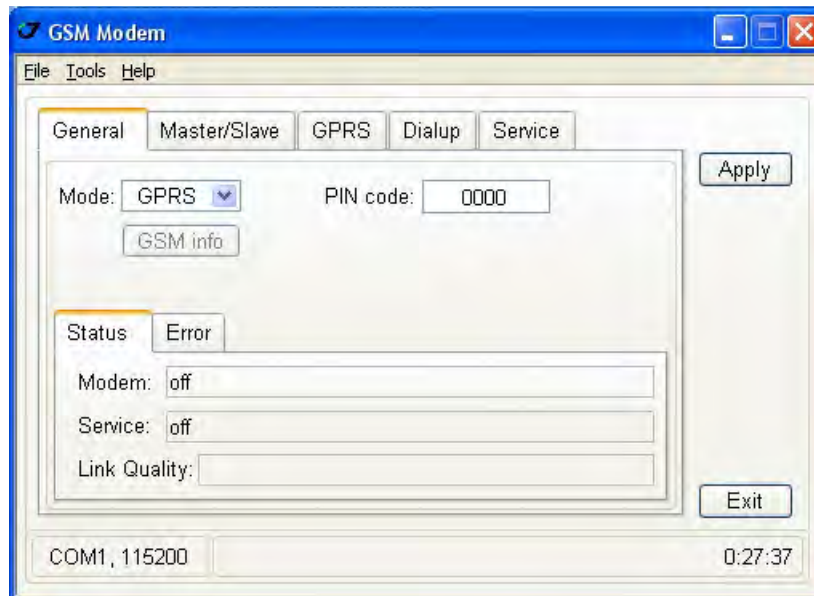

Figure 7. General tab
1. On the *General* tab, set the following parameters (Table 3) and click *Apply* (Figure 7 on page 31). In this tab modem and service status and possible errors are displayed.